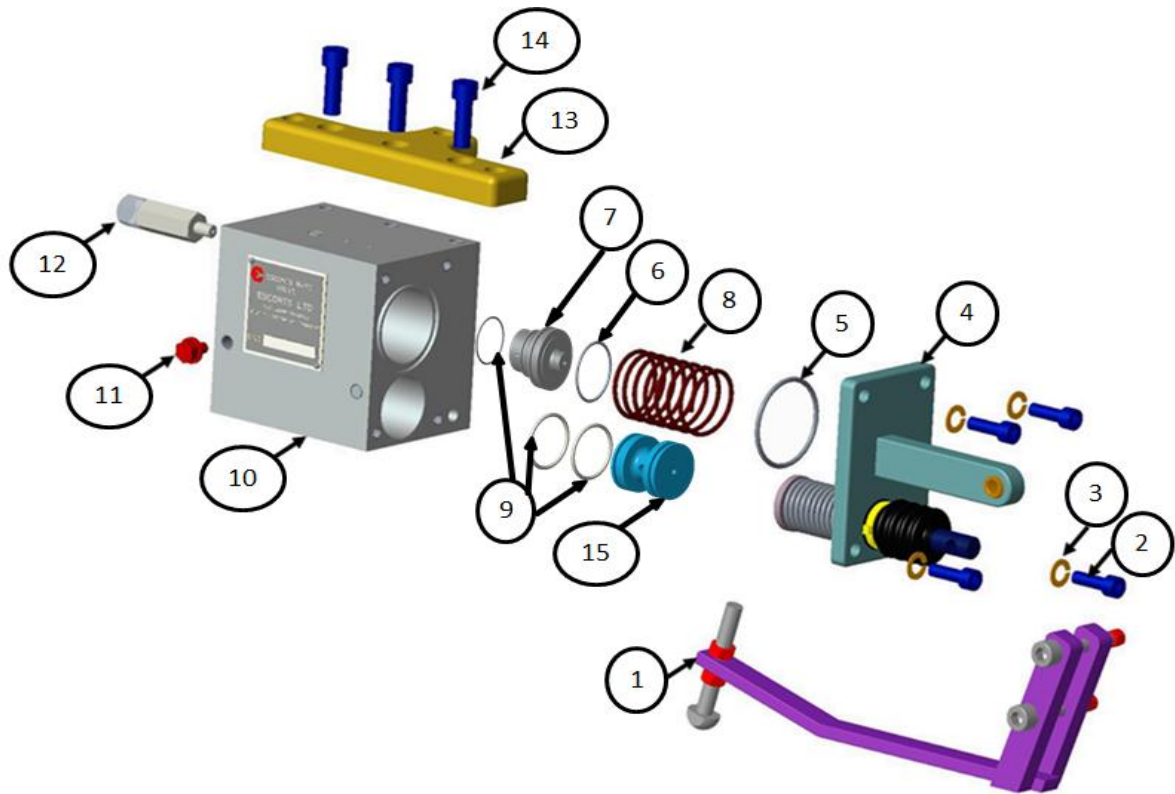

Figure 18: Exploded view of ERV/APM device
2.4 ESCORTS RATIO VALVE (ERV/APM) (Ref. Fig. 18)
2.5 ADJUSTMENTS OF ERV/APM DEVICE (Ref. Fig. 18)